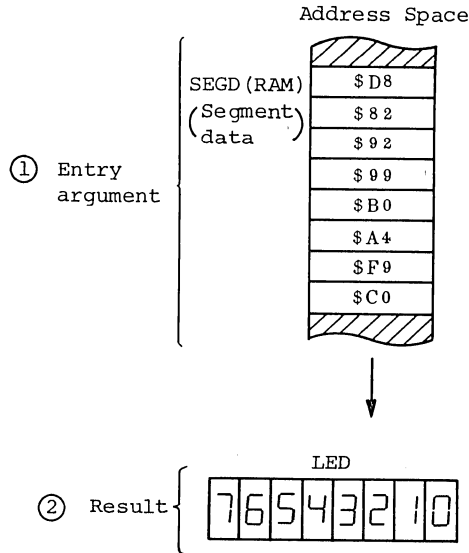

Figure 2-6. Example of LEDSP Execution
- b. Example of LEDSP execution is shown in figure 2-6. If entry arguments are as shown in part 1 of figure 2-6, data is displayed on LED as shown in part 2 of figure 2-6. Table 2-3 shows relation between segment data and display.